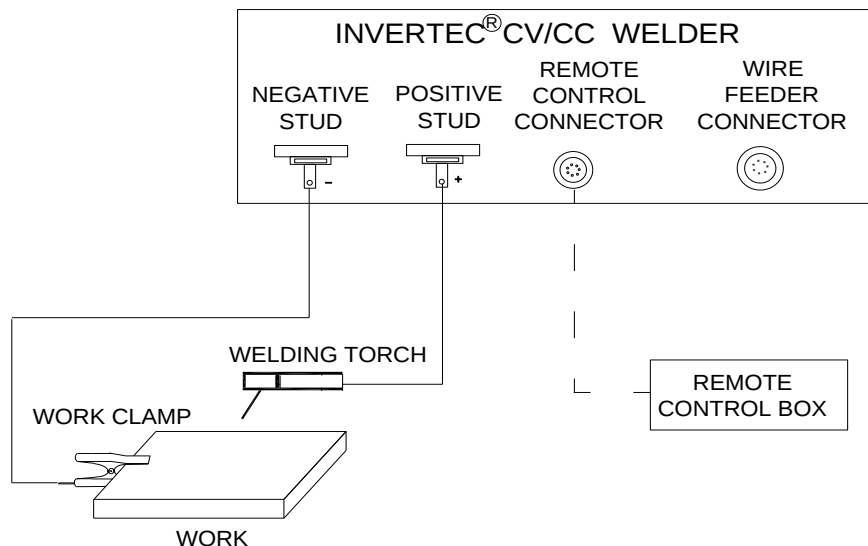

FIGURE A.6
4. SMAW PROCESS (CC MODE) CONNECTION (FIGURE A.6)